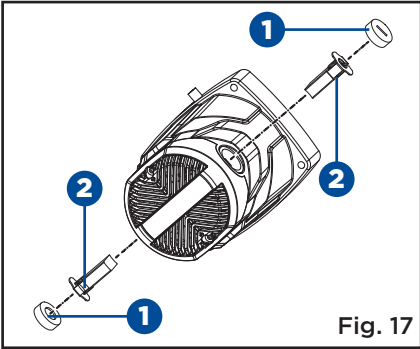

Fig. 17
**CARBON BRUSH REPLACEMENT (Fig. 17)**